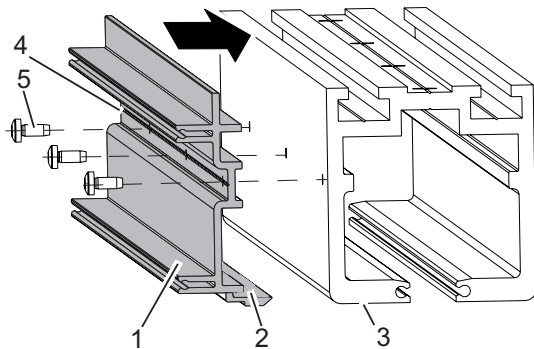

Fig. 42: Mounting the track cover
1. Place the plastic element (Fig. 42/1) to the track so that the surface (Fig. 42/2) rests on the lower edge (Fig. 10/3) of the track.
2. Place the drill inside the plastic groove (Fig. 42/4) and drill holes with  $\varnothing$  4.6 mm through the track at a distance of 400 mm.
4. Fasten the plastic element with the enclosed self-threading M5 screws (Fig. 42/5). Tighten with TX25.
☞ Slightly turn the locking screws (Fig. 42/1) at the mounts using spanners (Fig. 42/2) so that the fixed panel can be more easily removed from the track.